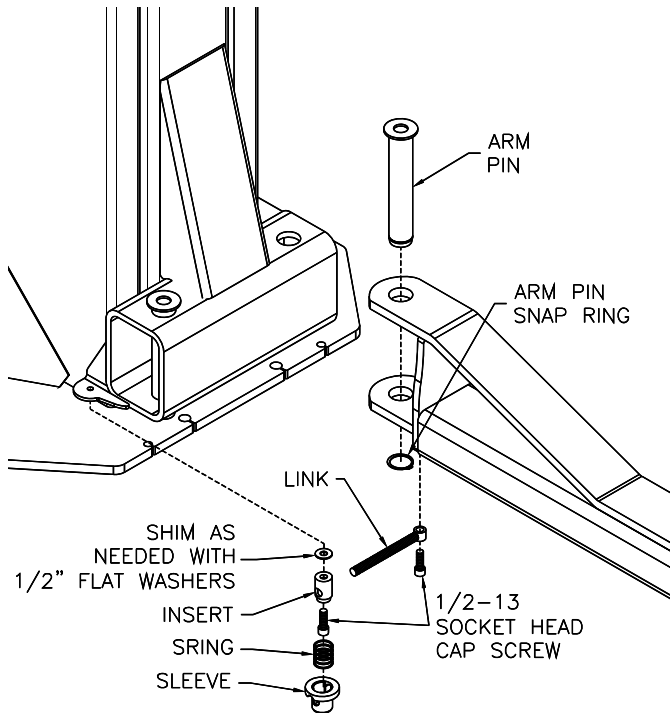

**Fig. 18 – Cable Assembly**
- 56) Remove the two nuts securing the right side of the power unit, install the valve cover with these nuts, and secure the hose to the cover with black wire ties, **Fig. 18**.